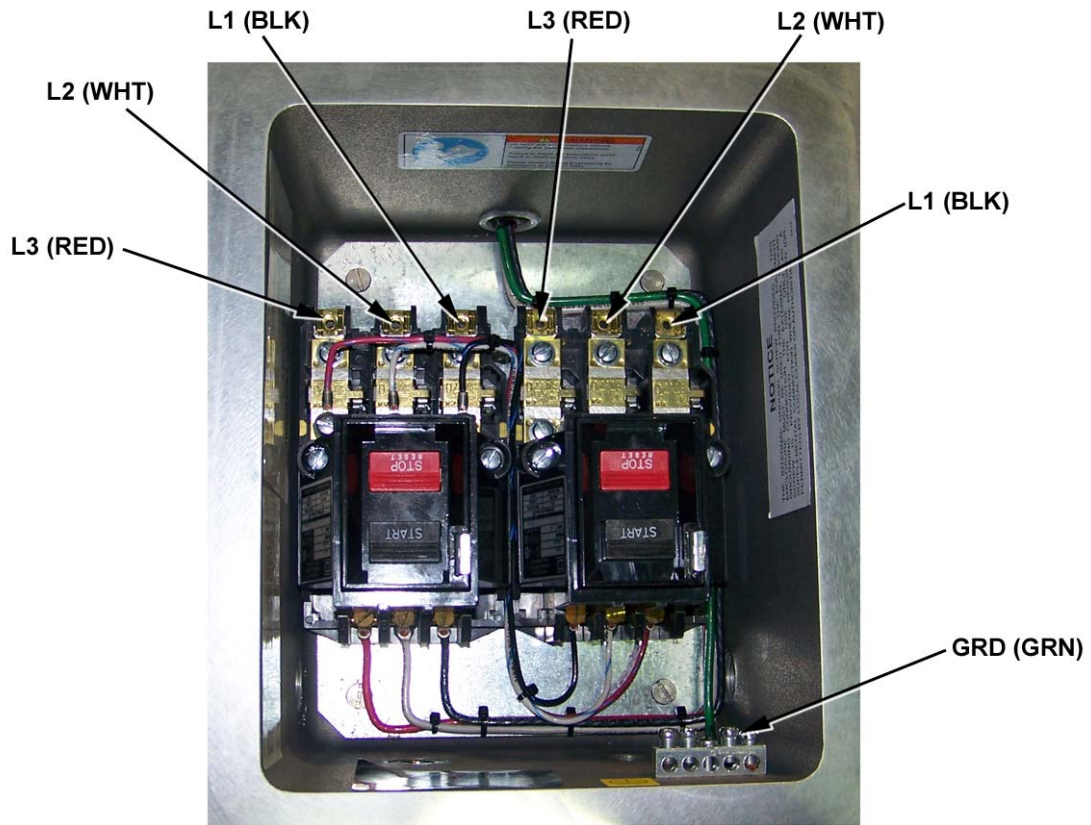
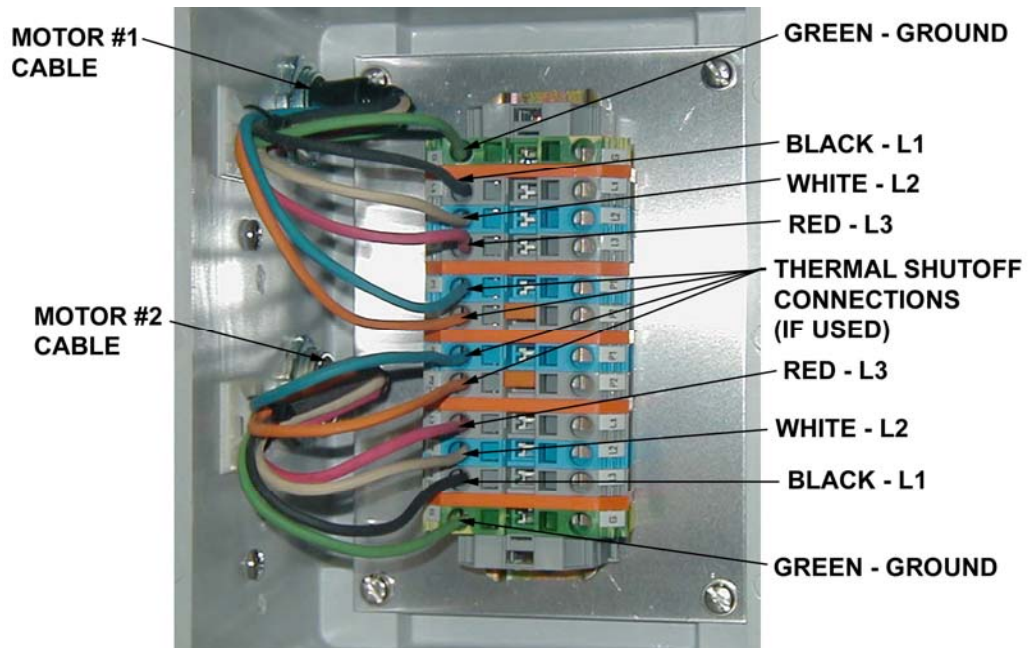
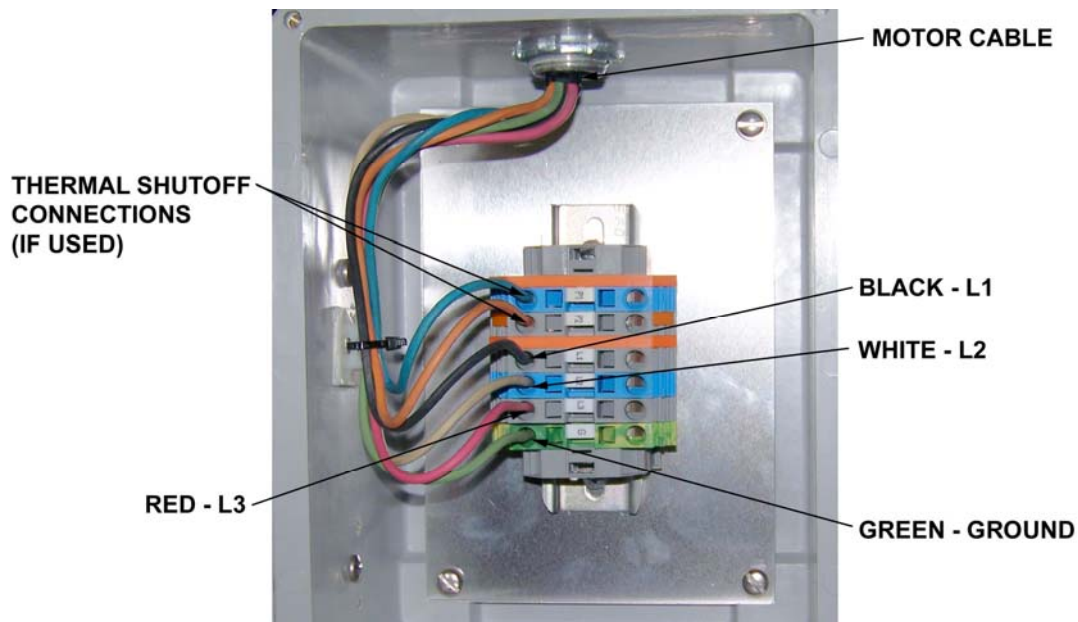

Figure 5 Starter Box Dual Motor Connections
Figure 6 Junction Box Dual Motor Connections
Figure 7 Junction Box Single Motor Connections
Depending on equipment type, motor leads are connected either inside a starter box or a junction box. If a starter box is installed, the motor leads are connected to the starter (Figure 5). If a junction box is present, the leads are connected to the terminal block shown in Figure 6 for dual motors or Figure 7 for a single motor. Refer to the schematic diagram in your equipment manual for additional assistance in connecting single or dual vibrator motor(s). The following procedures cover all types of installations. Select the procedure that applies to the electrical configuration of your machine.
Motor leads are connected to manual starters inside the starter box (Figure 5). Refer to the schematic diagram in Section 8 for additional assistance in connecting the vibrator motors. Connect the motor leads to the starters as follows:
1. Pass leads into junction box (Figures 6 and 7), and thread front gland nut into junction box and tighten securely.